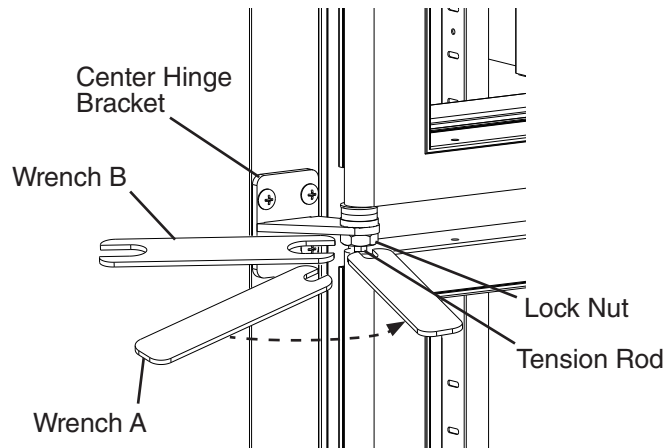

**Fig. 62**
- 22) Level the doors. If the doors are out of level, loosen the backer plate of the appropriate hinge bracket, slide the backer plate to the left or to the right, then tighten the slide pin and bottom hinge bushing with a wrench until it is tight. See Fig. 62. Next, mark a reference line on the bracket and fitting then tighten the fitting an additional 1/8 turn. Do this for both the upper and lower hinge.